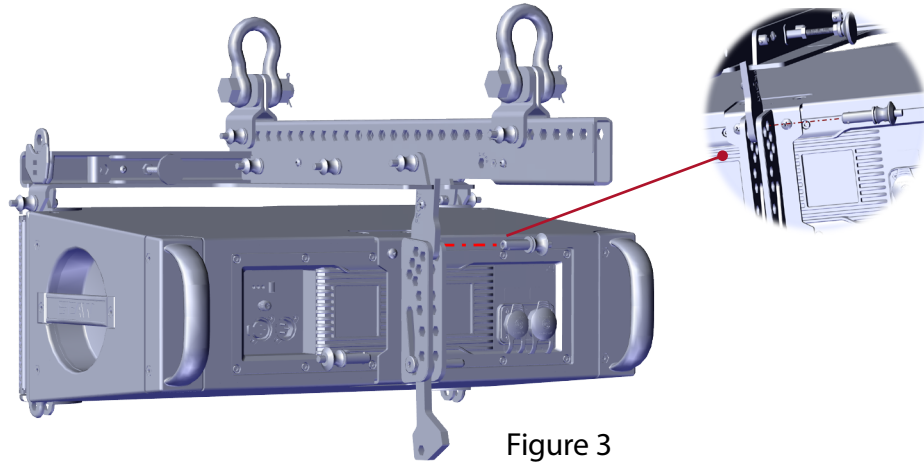

Figure 3
- Swing the rigging of the NT206L cabinet up to the Link Bracket on the flybar frame and pin the desired angle (Figure 3).